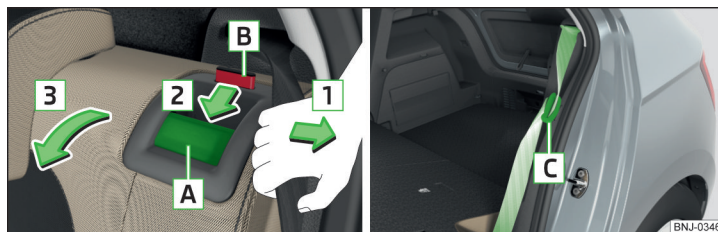

Fig. 71 **Fold seat backrest forwards / standby position of the seat belt**
- Pull the outer seat belt to the side panel in the direction of arrow **1** » Fig. 71. ►
- Pull the outer seat belt to the side panel in the direction of arrow **1** » Fig. 71.
The belt tongue of the outer seat belts **C** can be inserted into the side panel. Ready position » Fig. 71.